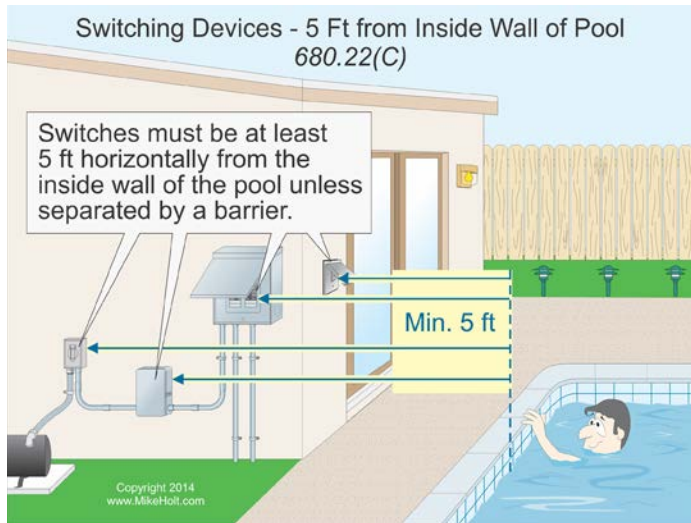

Figure 680–28
(C) Switching Devices. Circuit breakers, time clocks, pool light switches, and other switching devices must be located not less than 5 ft horizontally from the inside walls of a permanently installed pool, outdoor spa, or outdoor hot tub unless separated by a solid fence, wall, or other permanent barrier, unless the switching device is listed as being acceptable for use within 5 ft. **Figure 680–28**